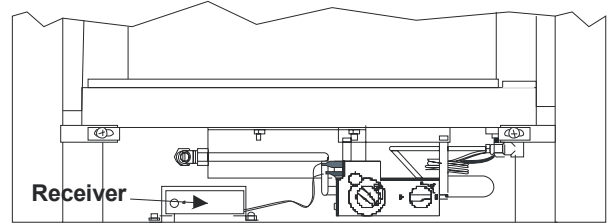

Figure 65
4. Position the receiver under the heat shield as shown in **Figure 65**.
2. Fit the connectors on the cable to the drive motor ensuring correct polarity. The cable connectors must be matched to the appropriately sized spade connector. Position the battery pack inside the heat shield (see **Figure 65**).